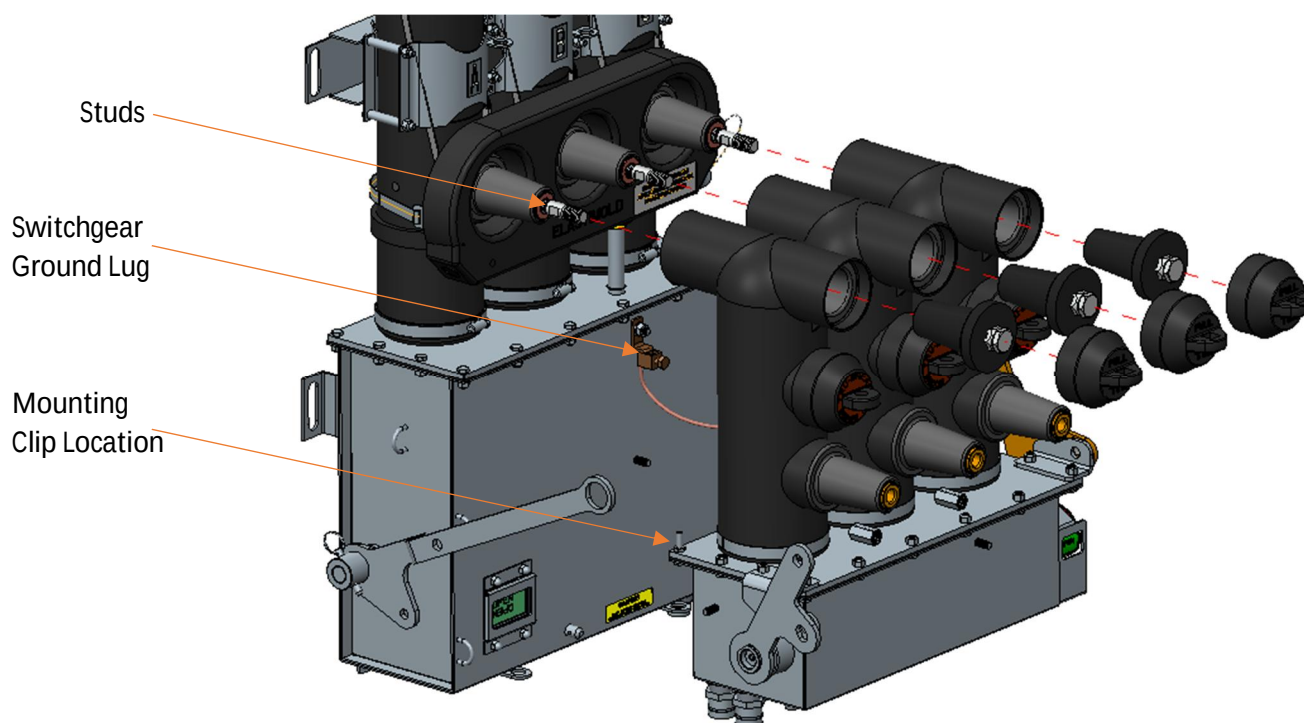

Figure 12 - Tru-Break Mounting to Switchgear
1. Loosen ground lug on existing switchgear. Insert provided ground cable and tighten ground lug. See Figure 12 for ground lug location.
3. Lift the Tru-Break module and install onto the switchgear in the orientation shown in Figure 12.